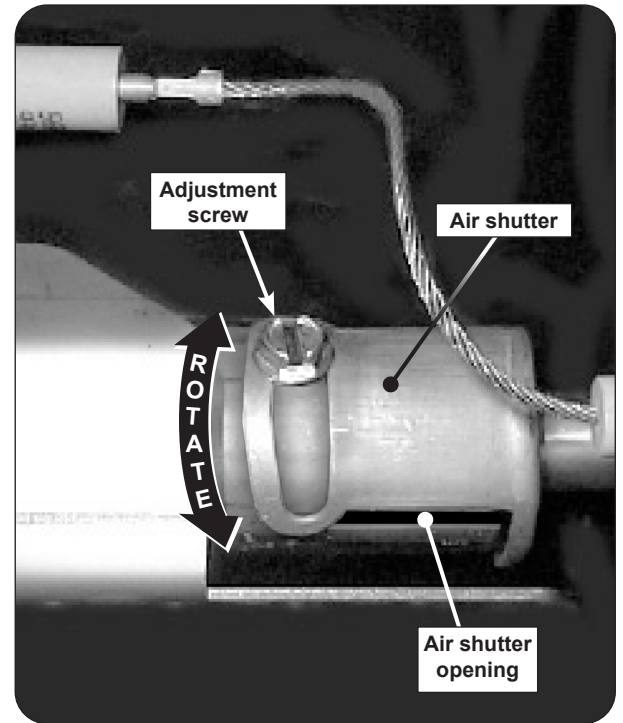

Fig. 41-1 Backburner air shutter adjustment detail
2. Loosen the adjustment screw with a flathead screwdriver, then carefully rotate the shutter to open or close it. See Fig. 41-1 for details.